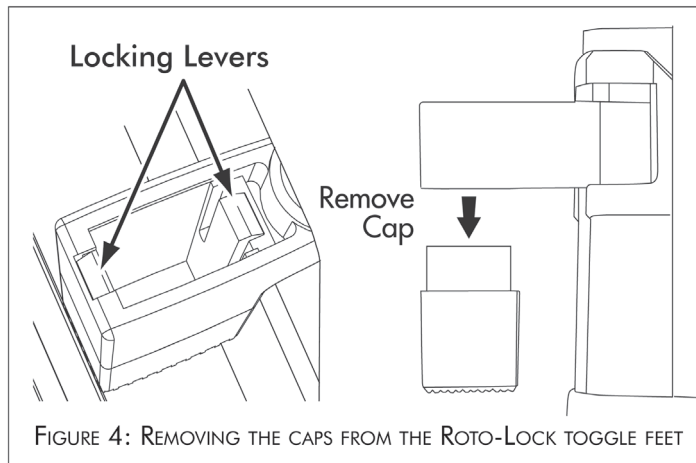

FIGURE 4: REMOVING THE CAPS FROM THE ROTO-LOCK TOGGLE FEET
4. When installing into double drywall or other thicker ceiling materials, you may need to remove part of the two-piece toggle feet. Use a small screwdriver to gently release the two locking levers (Figure 4).